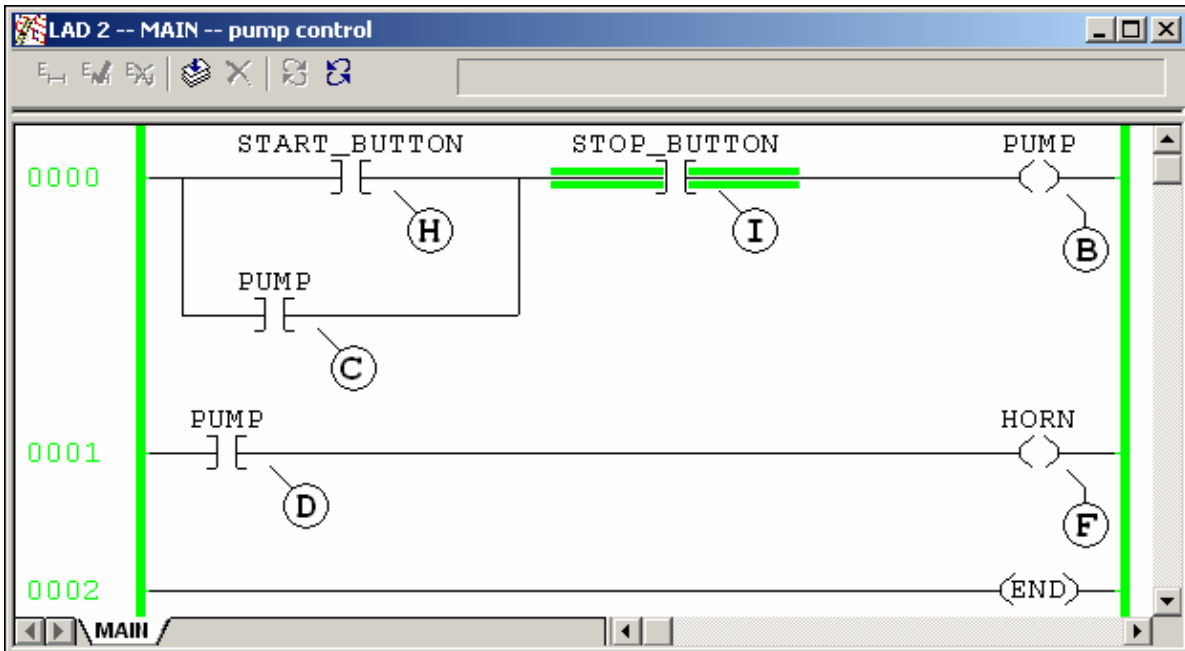
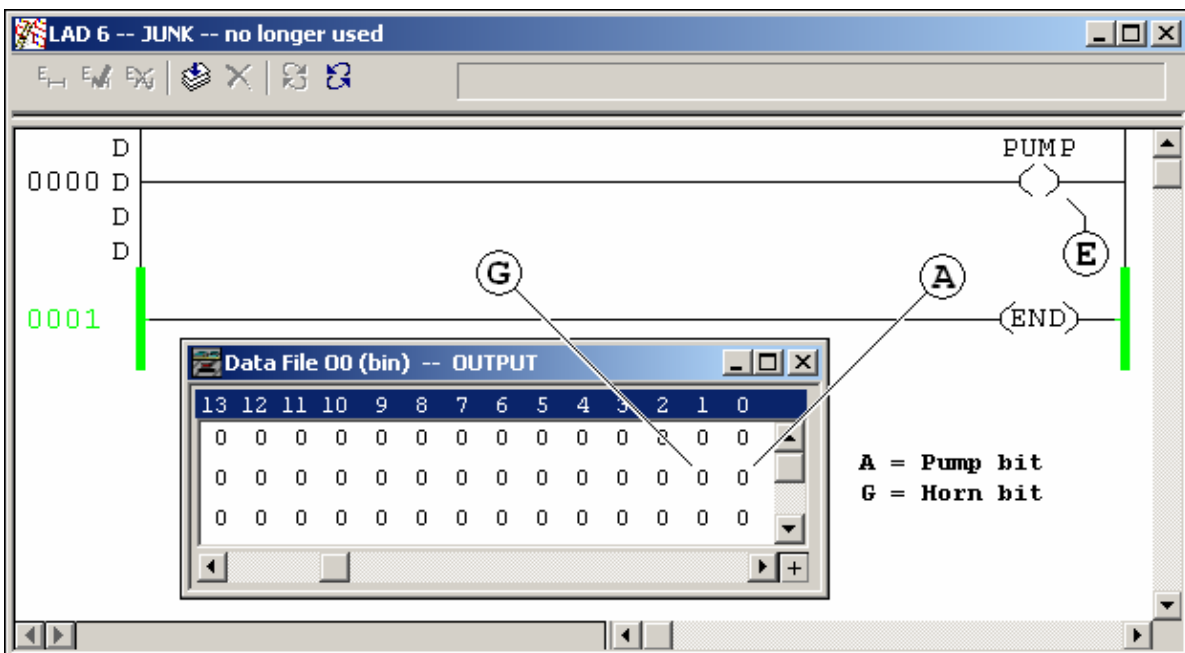

Figure 2 - Ladder Logic to Control the Pump and Horn
Figure 3 - Output Data Table and an Unused Ladder File
Note that Figures 2 and 3 together show the entire ladder logic program. Figure 3 also shows part of the processor's Output Data Table.
The rungs in File #2 (shown in Figure 2) are being properly scanned as in a normal simple program.
The rung in File #6 (shown in Figure 3) is NOT being scanned by the processor. In other words, there is no JSR, STI, MCP, or any other mechanism which would cause the processor to execute the ladder logic in this file. Specifically, this ladder file is an unused "junk" file which has been left in the system by a former programmer. Also notice that the only rung in this file has been marked for "deletion" as shown by the letters "D" in the window's margin. This edit for deletion is currently being "Tested" as shown by the unhighlighted condition of the rung's "power rails". All of this discussion boils down to the fact that the processor is NOT currently using this particular rung to control the operation of the system.
**Question 5** - Before you continue, remember that (as shown in Figure 3) Rung #0000 in File #6 is NOT being executed by the processor.
The ladder logic rungs shown above follow exactly the same pattern as the PLC/SLC system that we used in Figure 2. You may assume that the questions being asked in this particular quiz will all have identical answers for any of the three main Allen-Bradley platforms. Specifically, PLC-5, SLC-500, and ControlLogix processors will all respond identically in the following tests. Keep in mind that this will NOT always be true while working in the field - and there can be significant differences between the various platforms.